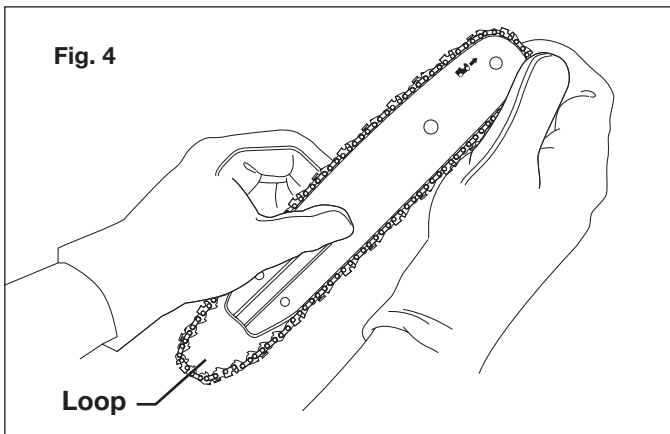

Fig. 4
- Starting at the tip, mount the chain drive links into the bar groove, leaving a loop at the back of the bar. The chain will loosely fit until it is placed on the sprocket (Fig. 4).